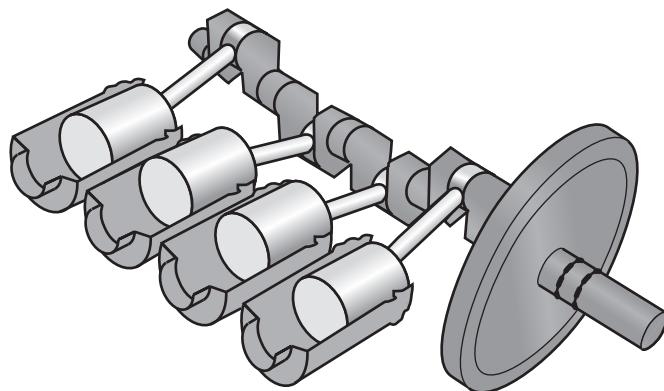

Fig. 5
- (c) Fig. 5 shows an engine piston and crankshaft assembly.